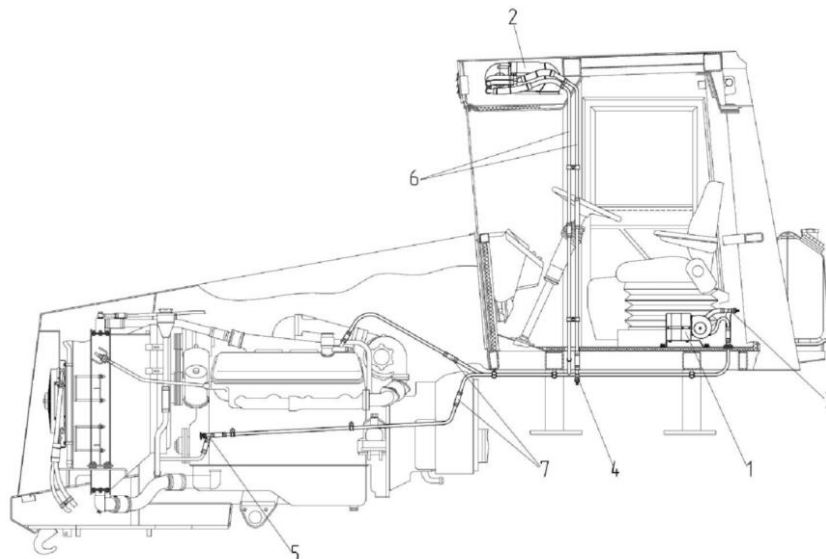

Fig. 20 Heating system
Two heaters serve for heating the cabin. The autonomous heater OC-8, pos. 1 (Fig. 20) is located to the left of the driver's seat. The heater fans are activated by button 38 (Fig. 1, 2, 3, 4).